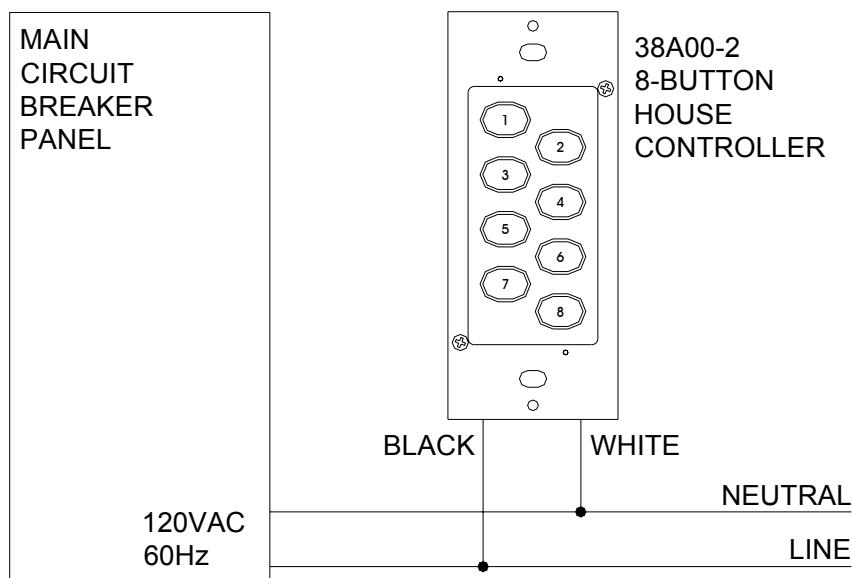

Figure 3 – Wiring Diagram
3. Remove $\frac{3}{4}$ " of insulation from each of the wires on the HAI UPB™ 8-Button House Controller. Install the HAI UPB™ 8-Button House Controller by connecting wires per wiring configuration shown in Figure 3.